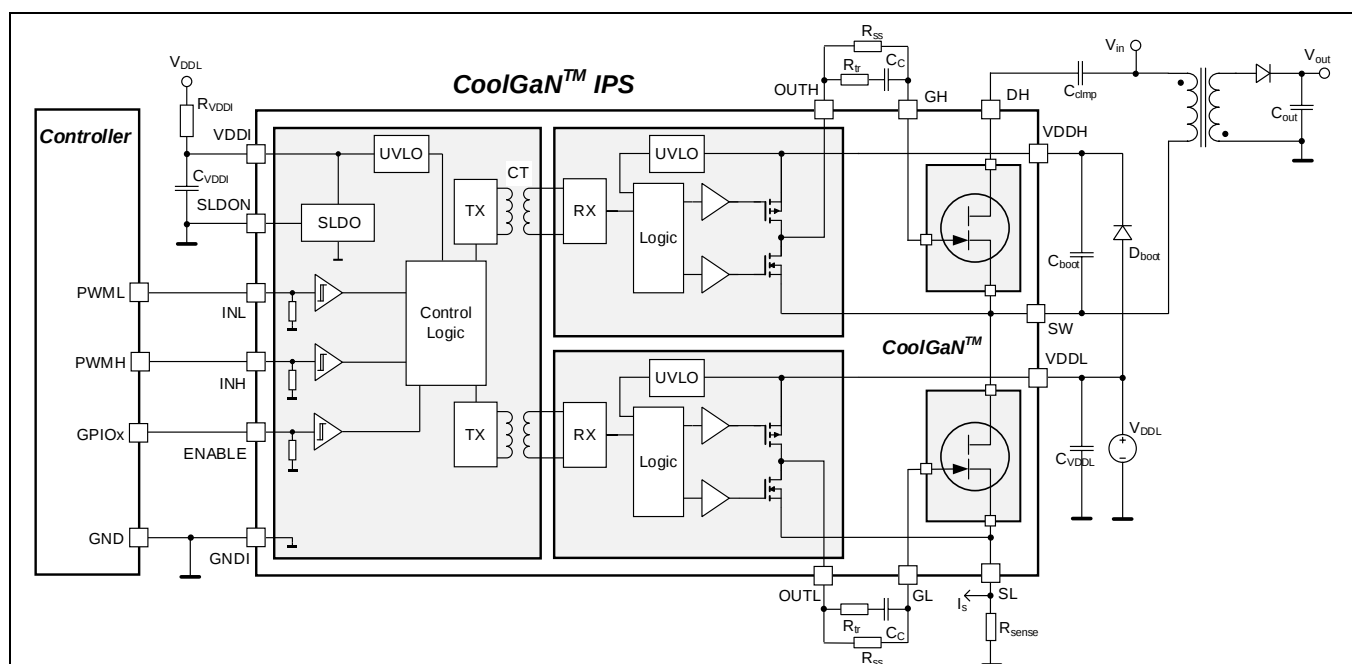
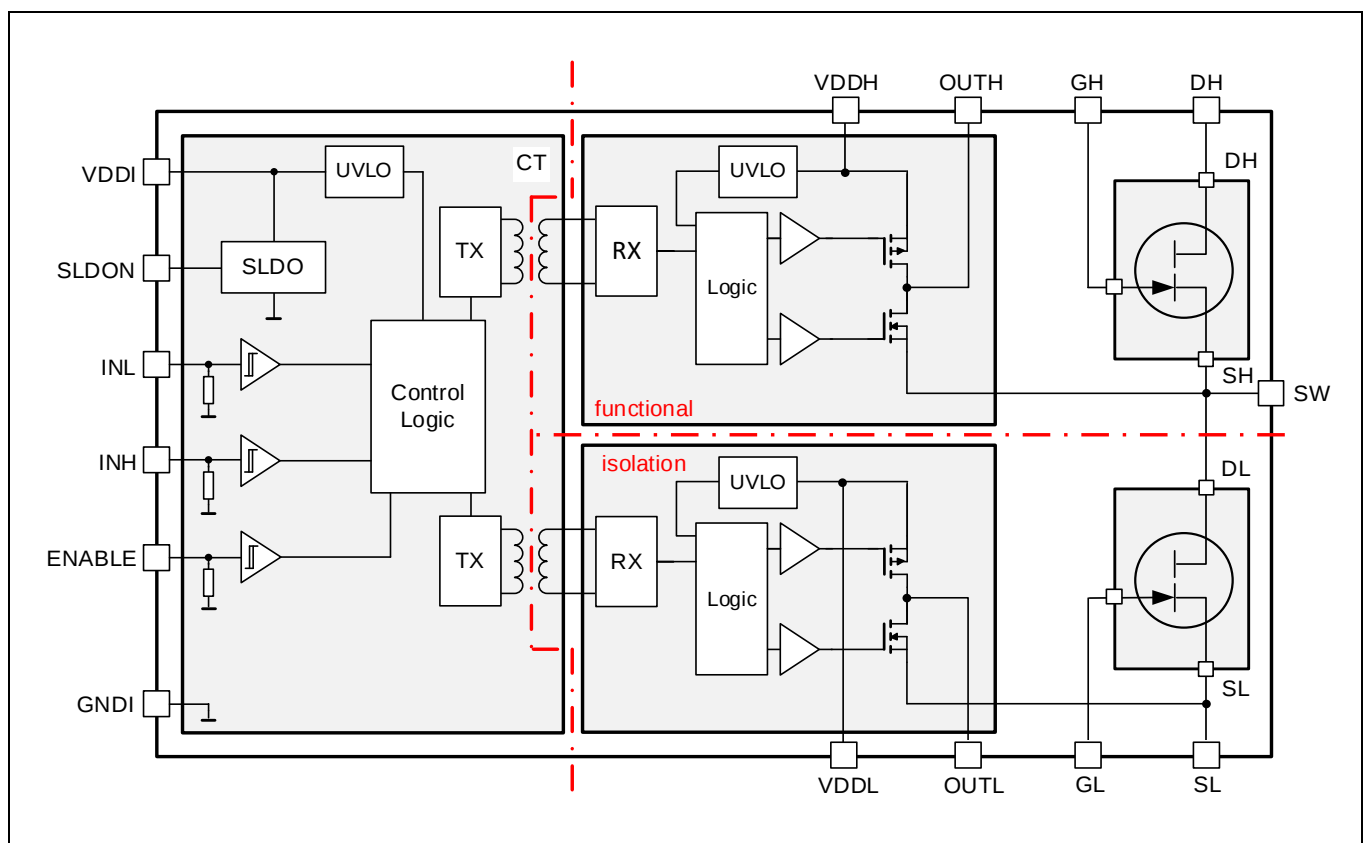

Figure 1 Typical application circuit (active clamp flyback converter)
Figure 3 Block Diagram IGI60F2020A1L
IGI60F2020A1L combines a half-bridge power stage consisting of two 200 mΩ (typ. $R_{ds(on)}$) / 600 V enhancement-mode CoolGaN™ HEMTs with dedicated gate drivers in a small 8 x 8 mm QFN-28 package. In the low-to-medium power area (example application in Figure 1) it is thus ideally suited to support the design of high-density AC/DC chargers and adapters utilizing the superior switching behavior of CoolGaN™ HEMTs.
A simplified functional block diagram of the CoolGaN™ Power Stage is given in Figure 3. For the level-shifting function of the input signal to the high-side switch an on-chip coreless transformer (CT) is utilized. For symmetry reasons a CT is also included in the low-side path, resulting in both a galvanic input-to-output and high-to-low-side isolation. In addition, this CT separates the low-side gate driver reference (SL) from GNDI allowing to use a shunt resistor for current sensing as shown in Figure 1.
If no separate 3.3 V supply is available, the input side can also be operated with V_{DDL} (typically 8 V). Then the shunt LDO voltage regulator (SLDO) has to be enabled by connecting pin SLDON (pin#23) to GNDI. The SLDO regulates the current through an external resistor R_{VDDI} connected between V_{DDL} and pin V_{DDI} as depicted in Figure 1 to generate the required voltage drop. For proper operation it has to be ensured that the current through R_{VDDI} always exceeds the maximum supply current I_{VDDI} of the input chip; but not too small to casue a high power dissipation and significant impact on the total system efficiency. R_{VDDI} thus has to fulfil:
Both output dice have to be supplied by a voltage of typically 8 V related to the source of the respective GaN switch. In many applications the floating high-side supply V_{DDH} can be generated from the ground-related V_{DDL} by means of bootstrapping (components D_{boot} , C_{boot} and R_{boot} in Figure 1). A ceramic bypass capacitance C_{VDDL} of typically 100 nF has to be placed close to pin VDDL.